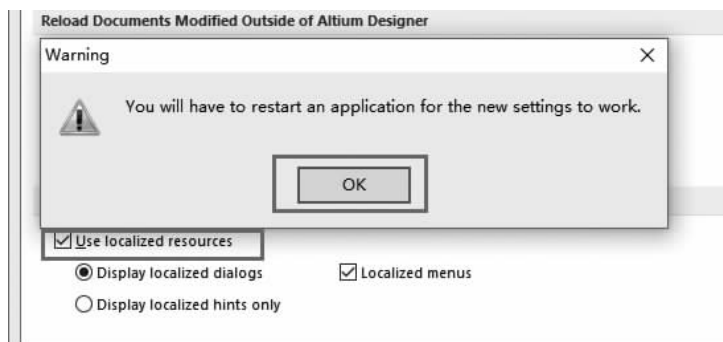

图 1-16 设置重启警告
(3)在如图 1-16 所示对话框中,选中“Display localized dialogs”(显示本地化语言对话框)单选按钮,选中“Localized menus”(显示本地化语言菜单)复选框,在“ You will have to restart an application for the new settings to work”(必须重新启动应用程序以使新设置正常工作)警告对话框中,单击“OK”按钮。